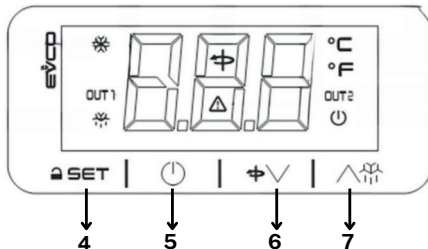

Figure 38
25.2.3. To configure the temperature settings, first press the "SET" button. After pressing the "SET" button, the "SP1" value will appear on the display. Using the up arrow button (indicated by number 7 in Figure 38), you can select either "SP1" or "SP2" to choose the desired tank.